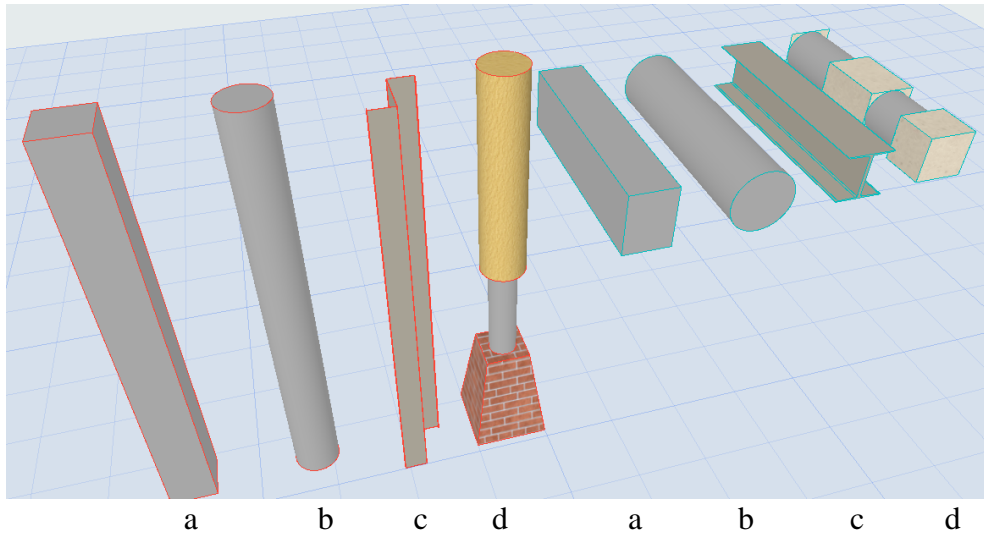

Figure 1.22 – Types of column and beam profiles:
have similar creation and editing methods. They can have different types of cut: rectangular (1) circle (2) complex (beam, I-beam, etc.) (3) multi-segment (4) (Fig. 1.22).